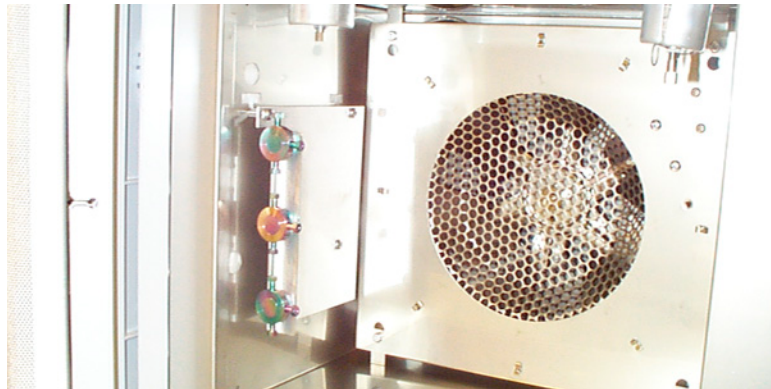

Figure 19 Installing the pneumatic coupler assembly
- 9 Mount the pneumatic coupler assembly on these three standoffs as shown in Figure 19.